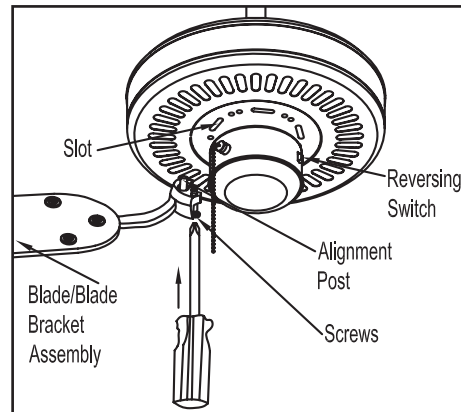

Figure 14
3. Fasten the blade assembly to the motor by inserting the alignment post into the slot on the bottom of the motor and tightening the motor screws. Please note that the motor screws are pre-attached into the blade bracket (Figure 14).
The reversing switch installed in the switch cup (refer to Figure 14 on page 8) controls the direction forward (switch down) or reverse (switch up).